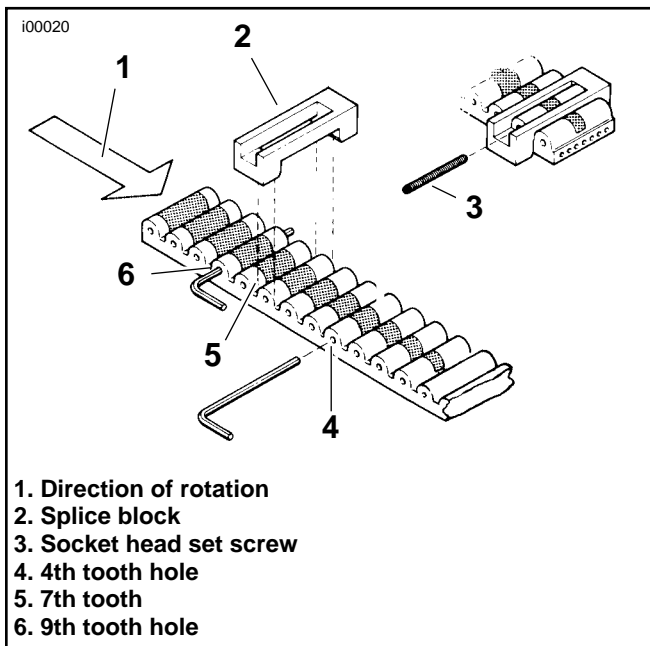

Figure 3. V Ends of Emergency Belt
9. See Figure 3. Interlock the “v” ends of the emergency belt.
- a. Insert a hex socket key in the fourth (4) and ninth (6) tooth holes.
- b. Place the splice block (2) over the seventh (5) tooth hole.
- c. Install a socket head set screw (3) in the seventh tooth. Tighten using another hex socket key.